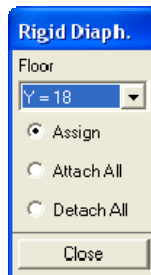

Figure 5-22 Rigid Diaphragm dialog box
- From the Assign menu, choose Rigid Diaphragms. The modeless dialog box of Figure 5-22 appears. To end rigid diaphragm assignment, choose the CLOSE button.